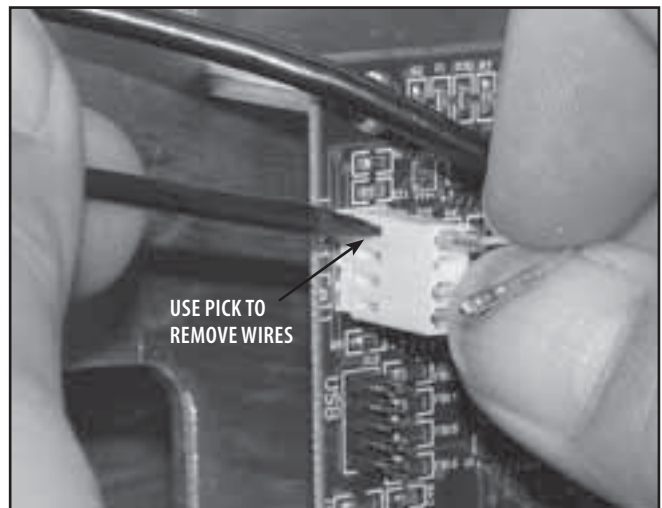

FIGURE 5.24
5. Turn unit Off. Using the Pick, remove Blue wire and Green wire from connector. See Figure 5.24.